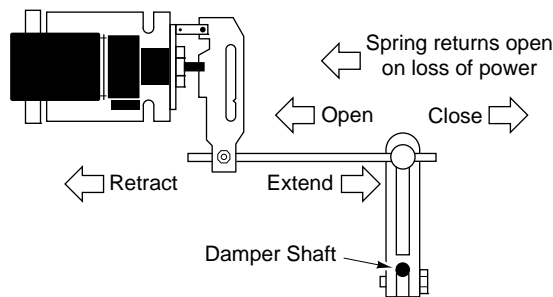
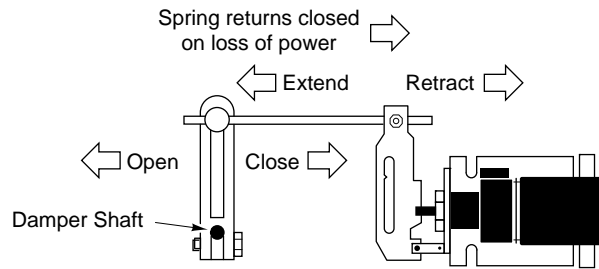

Figure-14 Dampers Open When Actuator Retracts
Figure-15 Dampers Open When Actuator Extends
- a. Determine, from the system requirements, if the damper should spring-return to the open position (Figure-14) or closed position (Figure-15) whenever power is lost to the actuator. For example, an outside air damper actuator is typically linked so as to retract (spring-return) to the damper's fully closed position (safe position).